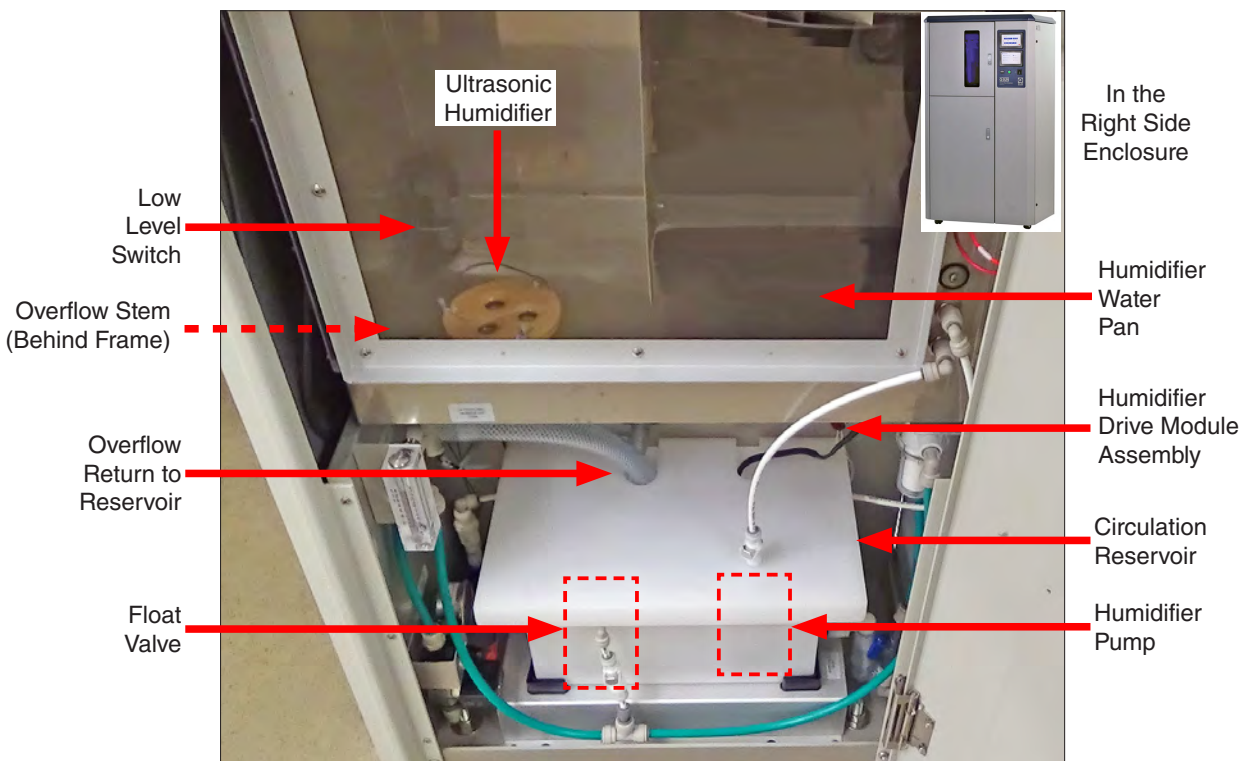

Figure 9.1: Humidifier System
- All Q-SUN Xe-2 testers are equipped with a controlled relative humidity (RH) system (Figure 9.1).
- The disc contains three (3) nebulizers that generate ultrasonic waves.